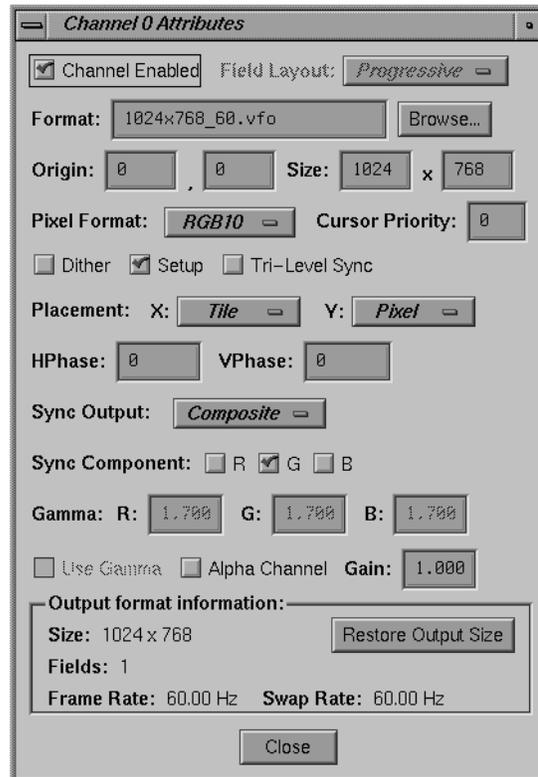

Figure A-4 Channel Attributes Window
4. Bring up the Attributes window by double-clicking the *Ch1* button in the Combiner main window. The Channel 1 Attributes window appears, as shown in Figure A-4.
7. Move to the right Origin box (the y-origin box) and replace the value with 10; press **Enter**. See Figure A-4 for an example.